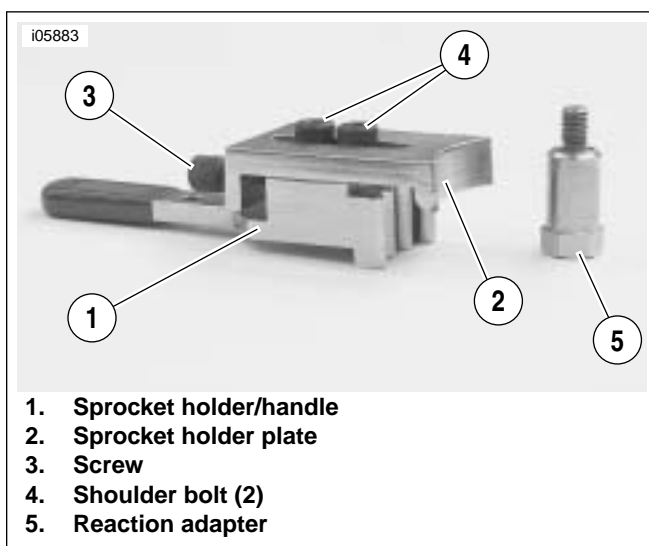

Figure 1. Final Drive Sprocket Holding Tool
1. See Figure 1. Unthread adjustment screw (3) several turns. Loosen shoulder bolts (4) just enough so that sprocket holder plate (2) slides smoothly on sprocket holder/handle (1).
- b. Tighten adjustment screw (item 3, Figure 1.) only enough to clamp tool squarely to sprocket. Do NOT overtighten adjustment screw.
- c. Tighten shoulder bolts (item 4, Figure 1.) firmly to lock tool in place.